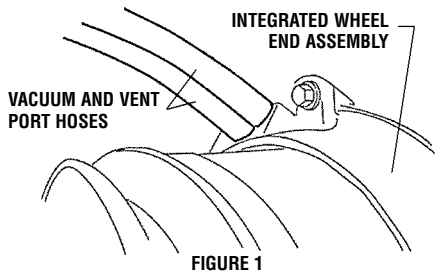

FIGURE 1
7. Remove the three small bolts securing the integrated wheel end assembly to the back side of the knuckle (See Figure 1).